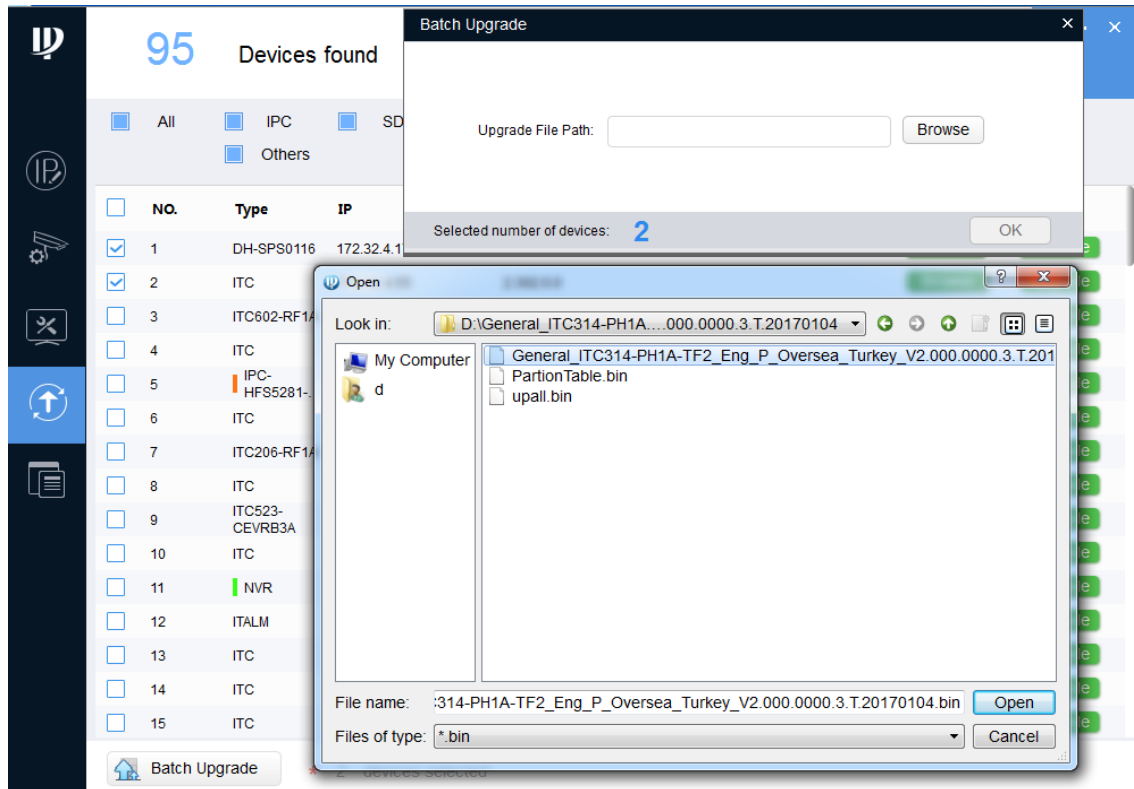

Figure 5-4
Step 4. Select upgrade file, see Figure 5-4.